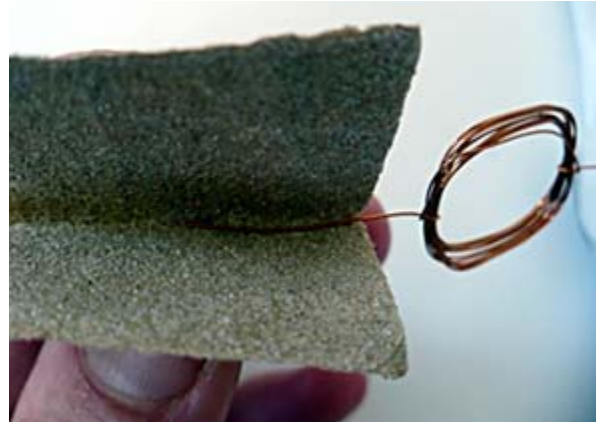

Figure 11. Illustration of how to strip *all* insulating coating from the left axle.
- ii. Put the end of the magnet wire that you want to strip inside the sandpaper sandwich, as shown in Figure 11, below. While softly pressing the sandpaper sandwich together, gently rub it over the wire, back and forth.